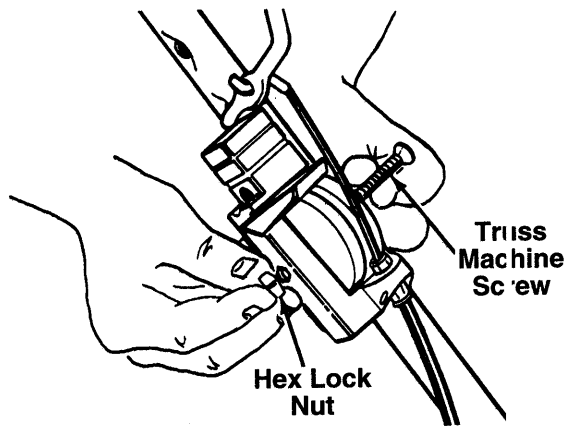

FIGURE 4.
- Place the control box on the upper handle just below the end of the control handle as shown in figure 4. Secure with hardware removed in step one by placing hex lock nut into the indent on the inside of the control box. Screw the truss machine screw into the hex lock nut.